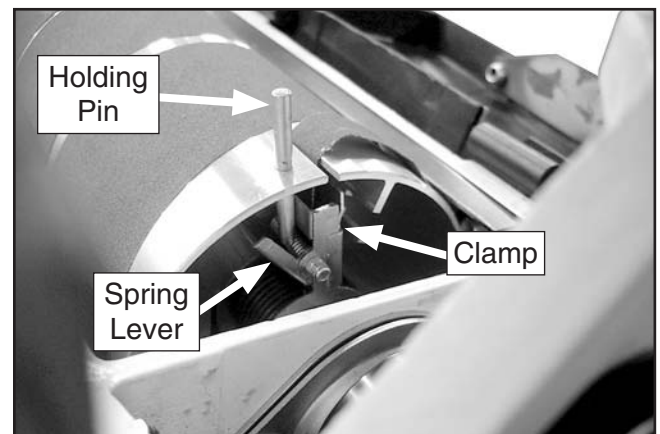

Figure 21. Holding pin inserted into the access hole (viewed from the right side of drum).
9. To secure the right end of the strip, move the clamping device forward by pressing against the spring lever until you can insert the holding pin between clamp and the spring lever, as shown in **Figure 21**.